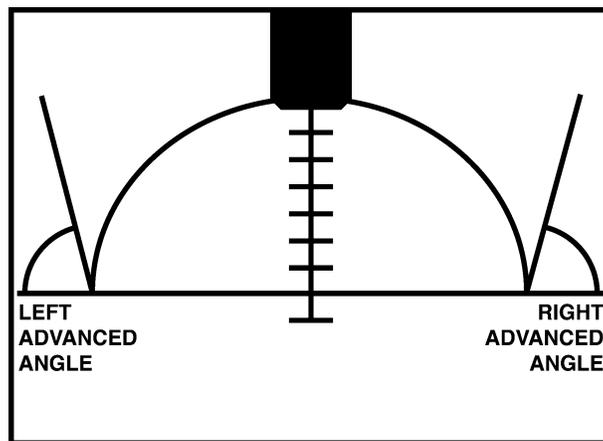

Fig. 13
- 12) With the syringe needle still in the droplet slowly retract droplet volume by rotating the micrometer knob counter-clockwise. After 10 seconds measure the left and right edges of the liquid's contact angle. Record the left, right and average contact angles. Again make a minimum of (5) measurements, receding the droplet in each case until the average contact angle stabilizes with (2) identical readings. (See Figure 13 below).